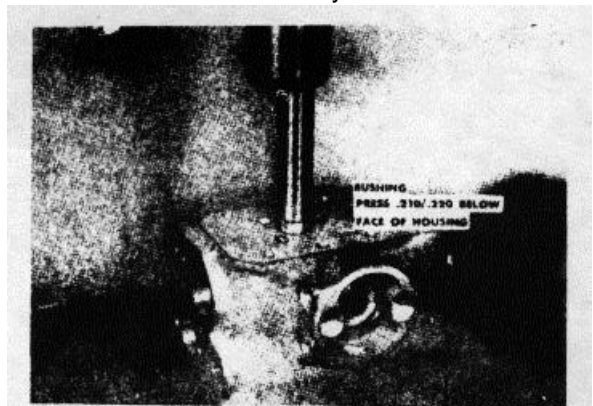

Figure 4-18. Pressing in a new rear drive shaft bushing
2. If bushing replacement is required, it can be pressed out and a new bushing pressed in its place. Fig. 4-18.